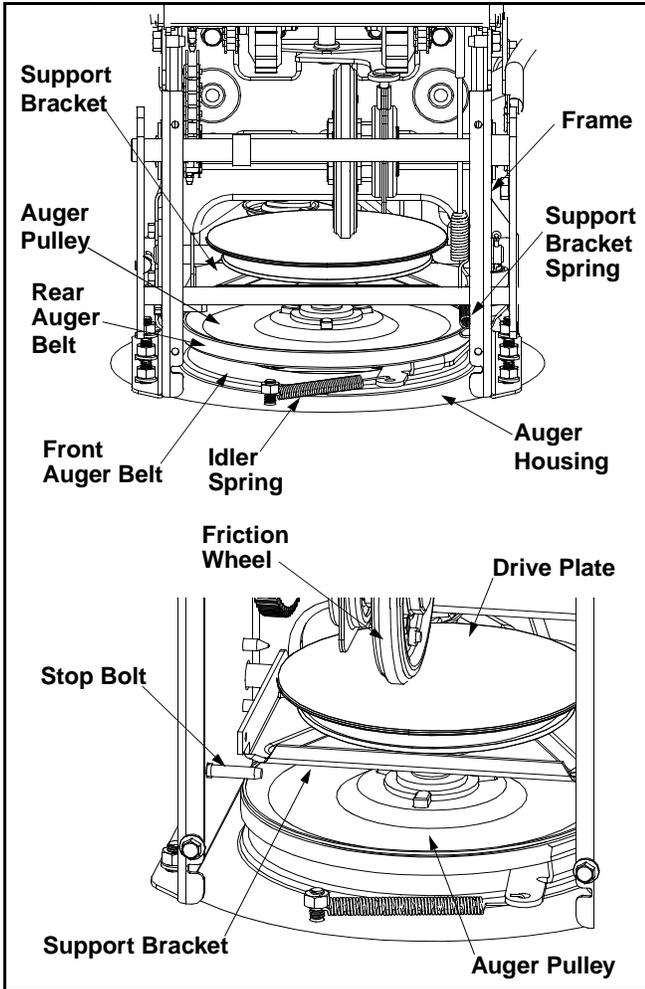

Figure 21
- Unhook the idler spring from the hex bolt on the auger housing. See Figure 21.
- Lift the auger belt from the auger pulley and slip belt between the support bracket and the auger pulley. Repeat this step for the front auger belt. See Figure 21.